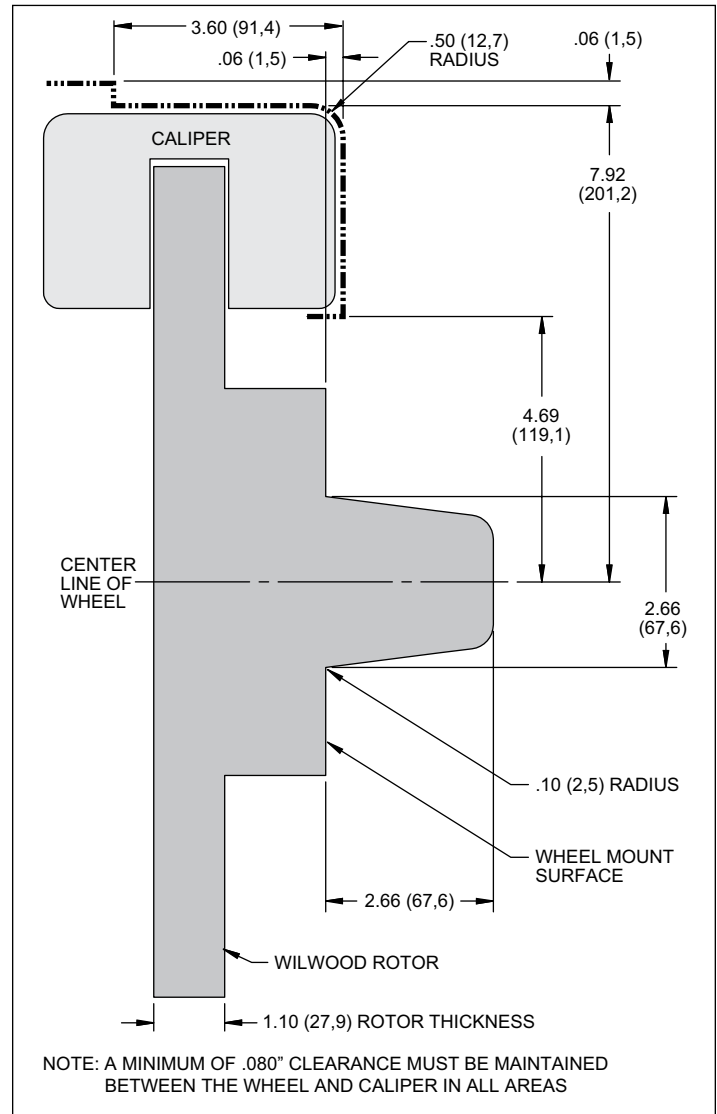

Figure 3. Wheel Clearance Diagram
- Review the wheel clearance diagram (figure 3, page 5) to verify that there is adequate clearance with the wheels you will be using with the installation.
- Verify wheel clearance utilizing Figure 3.